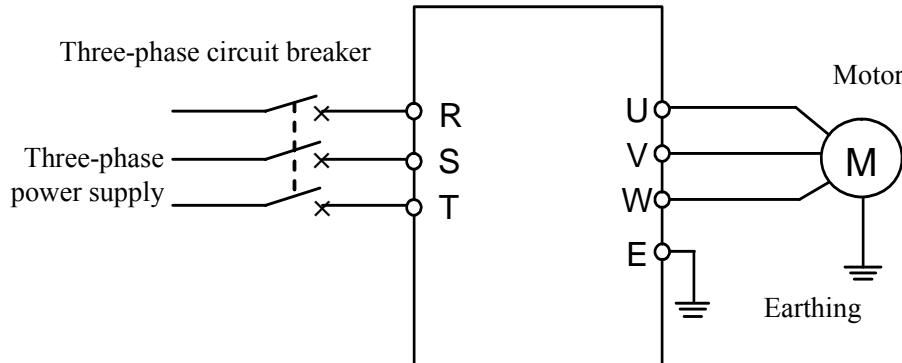

Figure 4-2 Simple Running Wiring Diagram
- ① Connect wires as per Figure 4-2;
- ② Switch on the power supply after confirming that the wires are connected correctly, and the inverter will firstly display “P.ON” and then “0”.
- ③ Confirm that the frequency setting channel is at the digit setting model ([F0.00] = 0);
- ④ It is required to set parameter [F0.12] and [F0.13] according to the rated nameplate data on the inverter’s dragging motor.
- ⑤ Press  key to start the inverter and the inverter will input 0 frequency, displaying “0.0”.
- ⑥ Press Up of  key to increase set frequency, and the output frequency of the inverter will increase and the motor revolution will also increase.
- ⑦ Check if the motor run normally. In case of any abnormality, stop running the motor immediately and disconnect power supply. Do not run the motor until fault cause is found.
- ⑧ Press Down on the  key to decrease set frequency.
- ⑨ Press  key again to stop running and cut off the power supply.